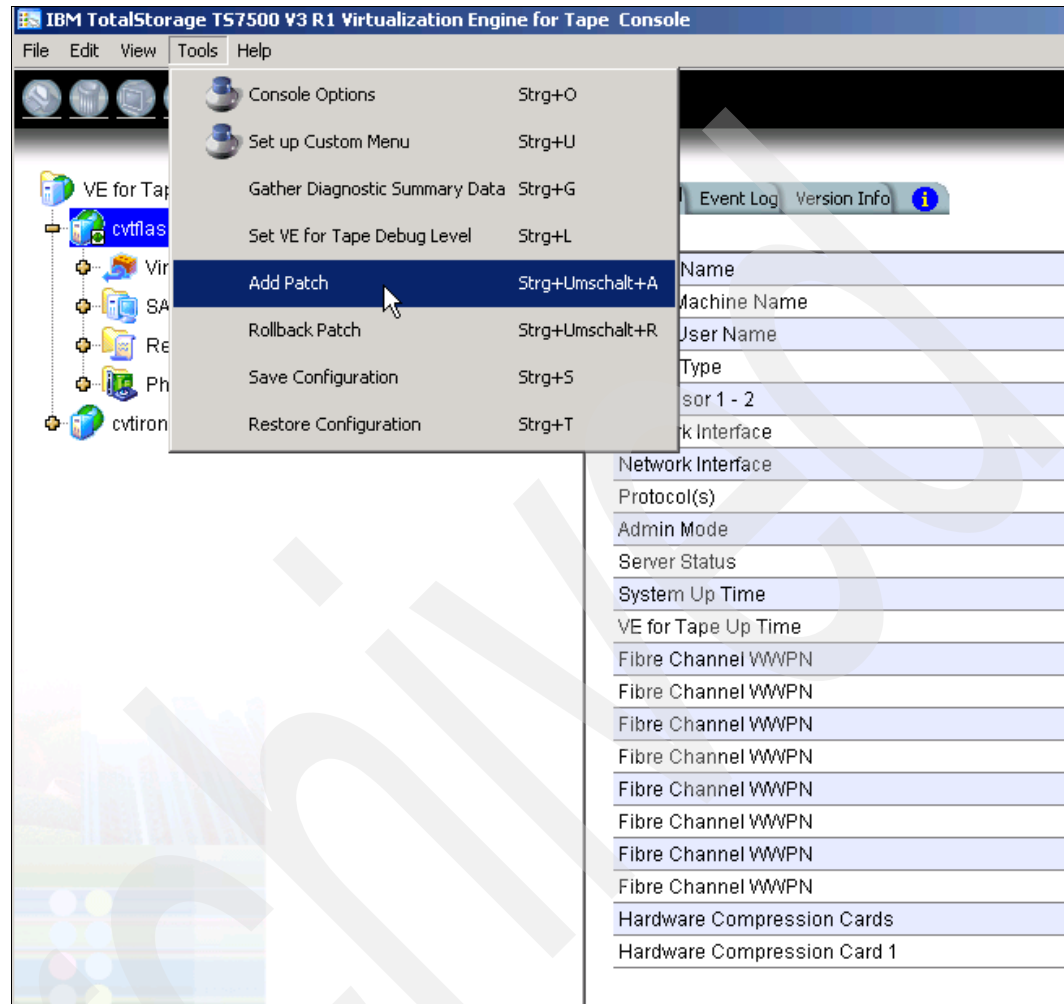

Figure 13-6 Adding patch or remove patch
- Using the VE for Tape Console, connect to <your TS7530 server>. From the title bar, select **Tools** → **Add Patch or Remove Patch**. See Figure 13-6.